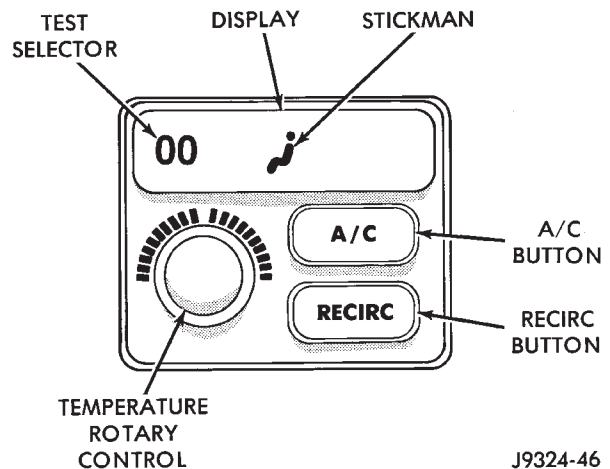

Fig. 7 Test Selector Values Between 0 and 99
(2) If the stickman shows no arrows, the test selector value will be a range of numbers between 0 and 99 (Fig. 7).